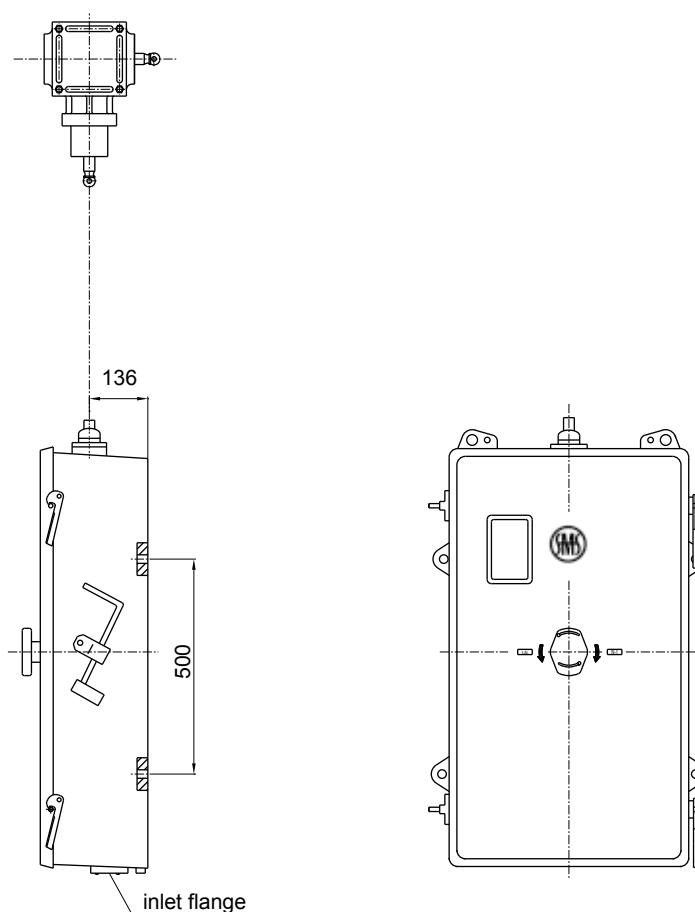

Fig. 6 Installation
5.2 Mounting of drive shaft and bevel gear (fig.6)